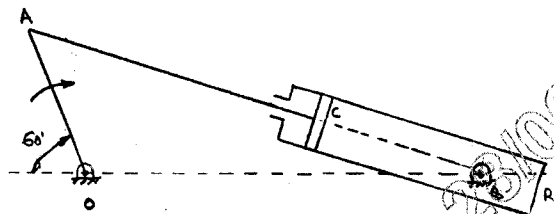

Fig. Q3
- 3 In the mechanism shown in Fig. Q3 line OA = 320 mm, AC = 680 mm and OQ = 650 mm. Determine (i) the angular velocity of the cylinder. (ii) the sliding velocity of the plunger. (iii) the absolute velocity of the plunger. when the crank QA rotates at 20 rad/sec CW. (20 Marks)